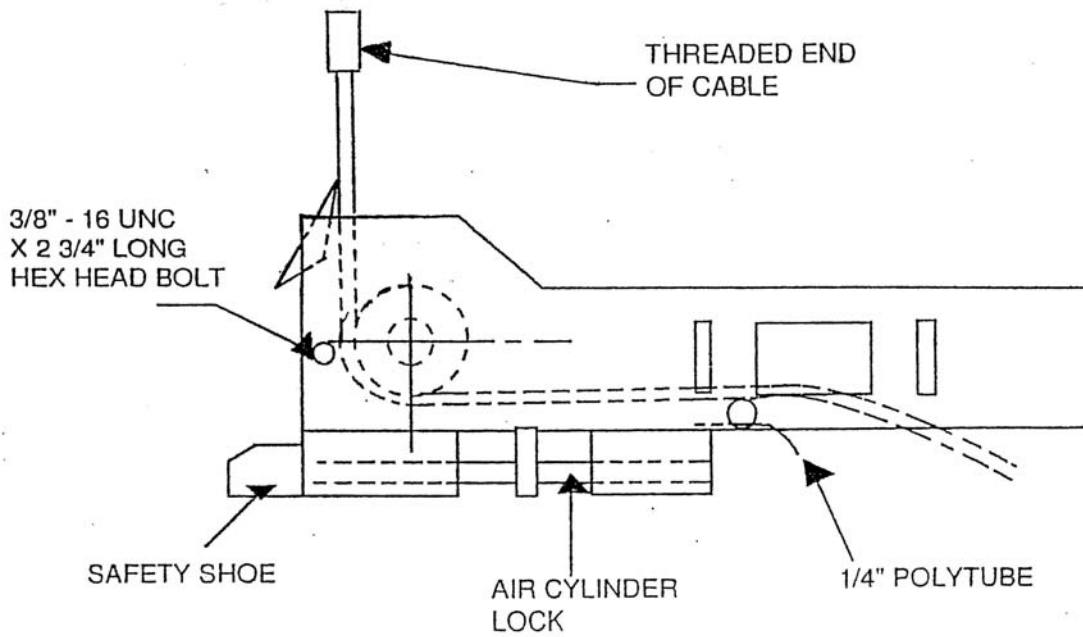

Figure 4
- Before beginning cable routing, refer to Figure 4 Cable and Routing Diagram.
- Begin routing cable #4 (part #2-0646) from the right side of the front crossmember assembly using the non threaded end of the cable as described in Figure 4, and out through the opening under the front of the right deck.
- Begin routing cable #3 (Part # 2-0645) from the right rear crossmember assembly using the non threaded end of the cable as described in figure 4, and out through the crossmember assembly to the opening under the rear of the right deck.
- Route cable #2 (Part # 2-0644) from the left side of the rear crossmember assembly using the non threaded end of the cable as described in figure 4, and out through the crossmember assembly to the opening under the rear of the left deck.
- Route cable #1 (Part # 2-0643) from the left side of the front crossmember assembly using the non threaded end of the cable as described in figure 4, and out through the crossmember assembly to the opening under the front of the left deck.
- Install the cables as shown in Figure 4, Cable and Routing Diagram.